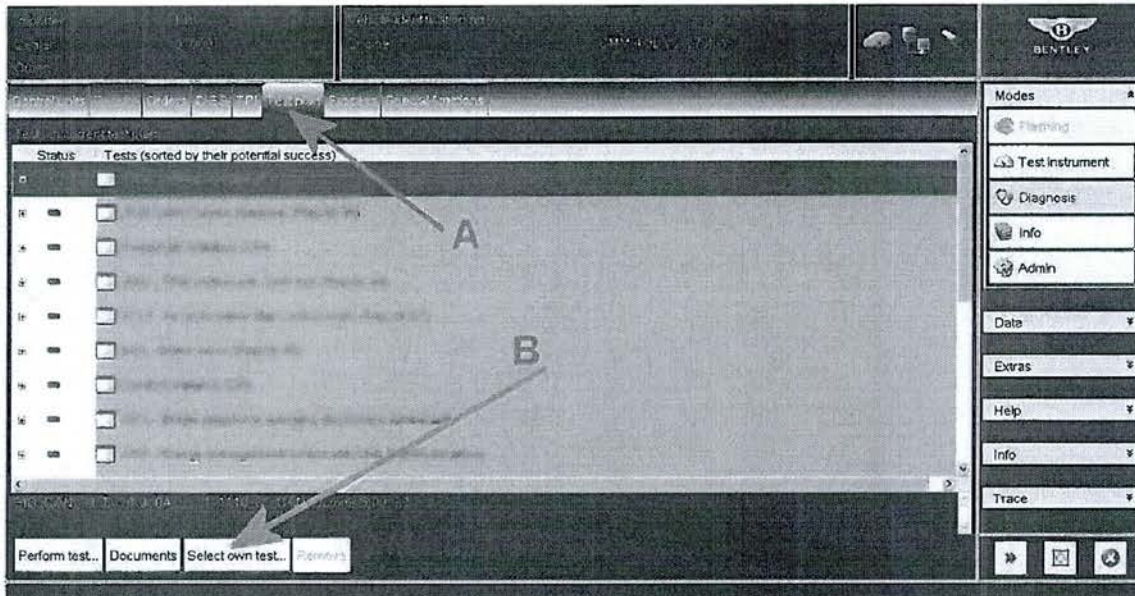
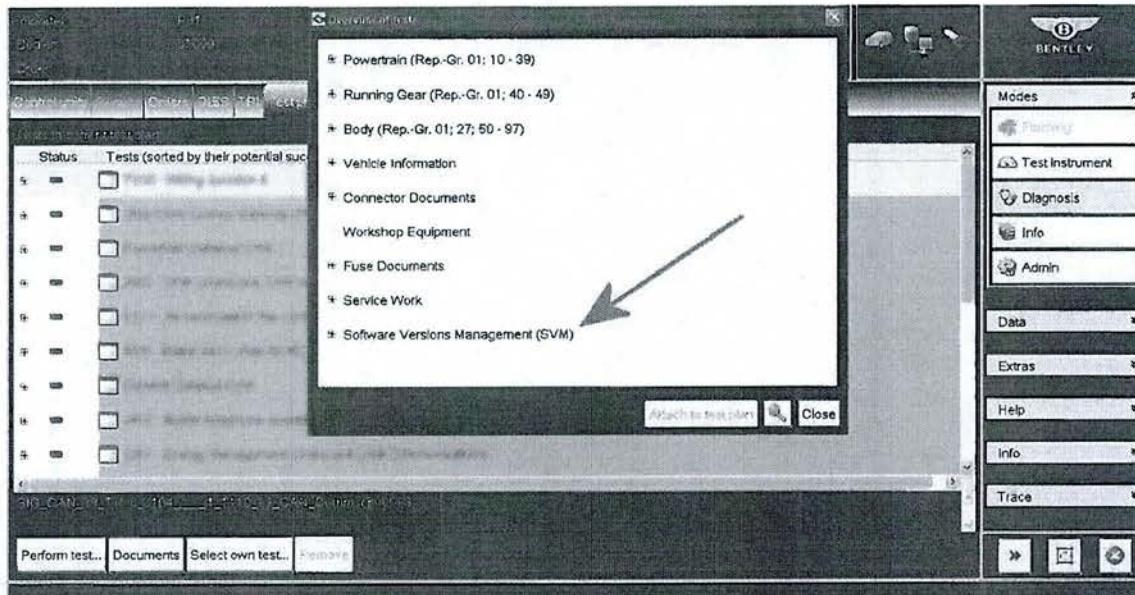
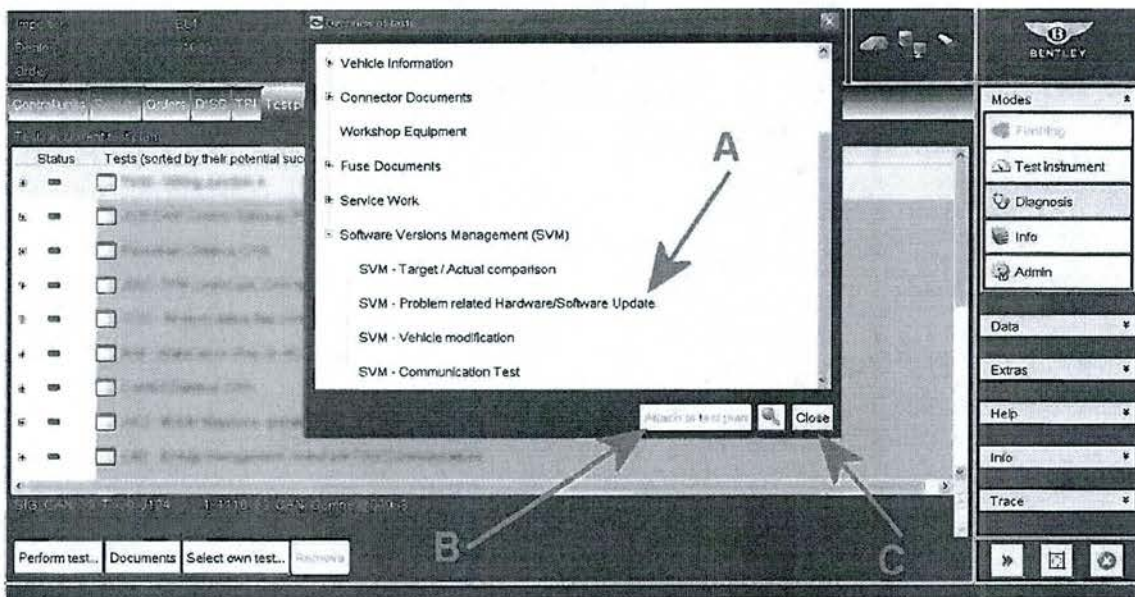

Figure 4
Figure 5
Figure 6
- Once Guided Fault Finding is complete, Select - Test plan as shown in Figure 4 point A - Select own test as shown in Figure 4 point B, (the overview of tests screen will now appear as shown in Figure 5)
- Referring to Figure 5 (Overview of tests screen) select + Software Version Management (SVM) a drop down box will now appear as shown in Figure 6
- Referring to Figure 6 - Select SVM - Problem related Hardware/Software Update (point A)